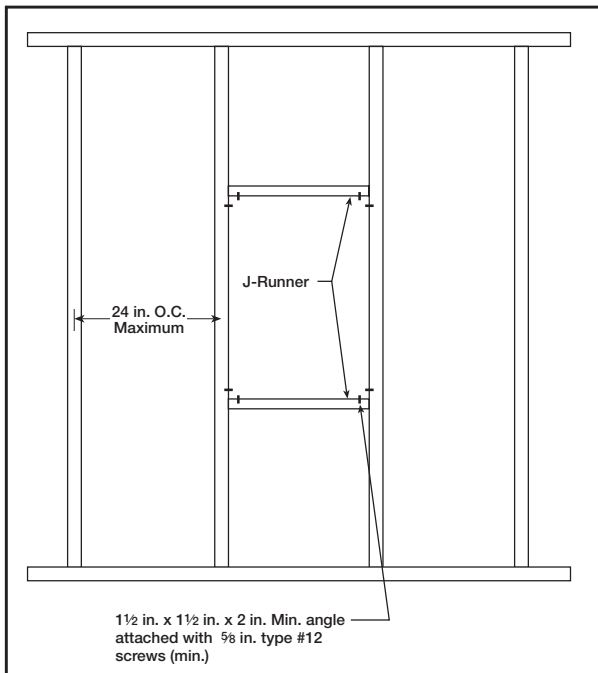

Figure 1: Opening Preparation Detail
- Gypsum panels must be screwed 12 in. (305mm) on center maximum to all stud and runner flanges surrounding opening. (See **Figure 1** and **Figure 2** for Opening Preparation Details).